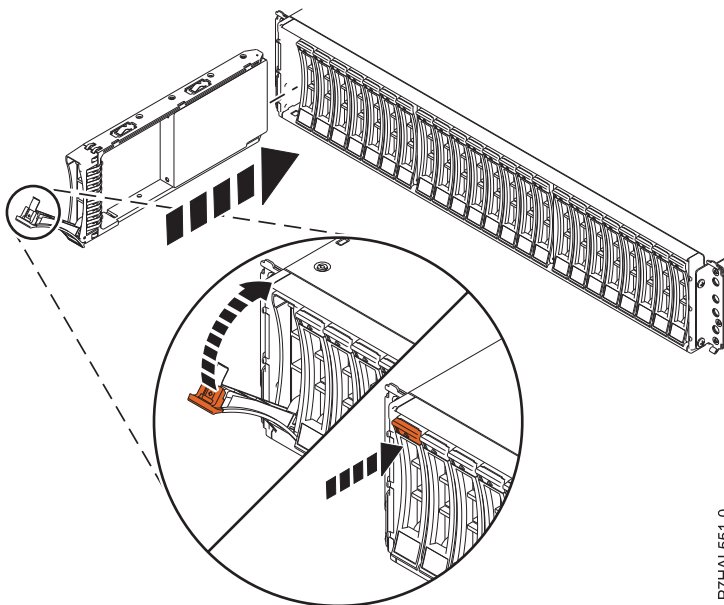

Figure 22. Installing or replacing the disk drive in an enclosure
3. With the handle in the unlocked position, as shown in Figure 22, support the bottom of the drive as you align it with the guide rails in the enclosure.
7. Lock the drive by rotating the bay handle (A) in the direction that is shown in Figure 22.